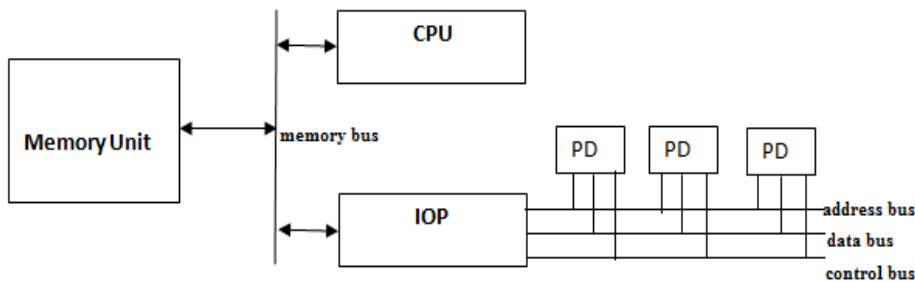

Figure 7 : Interconnection of Peripheral Devices and Memory using different set of Buses
1. Different set of address, data and control buses are used to connect memory and other Peripheral Devices (PD), as shown in Figure 7. In this case a separate Input/Output processor (IOP) is required to control the peripheral devices. The memory communicates with CPU and IOP using memory bus whereas the IOP communicates with its separate address data and control bus.